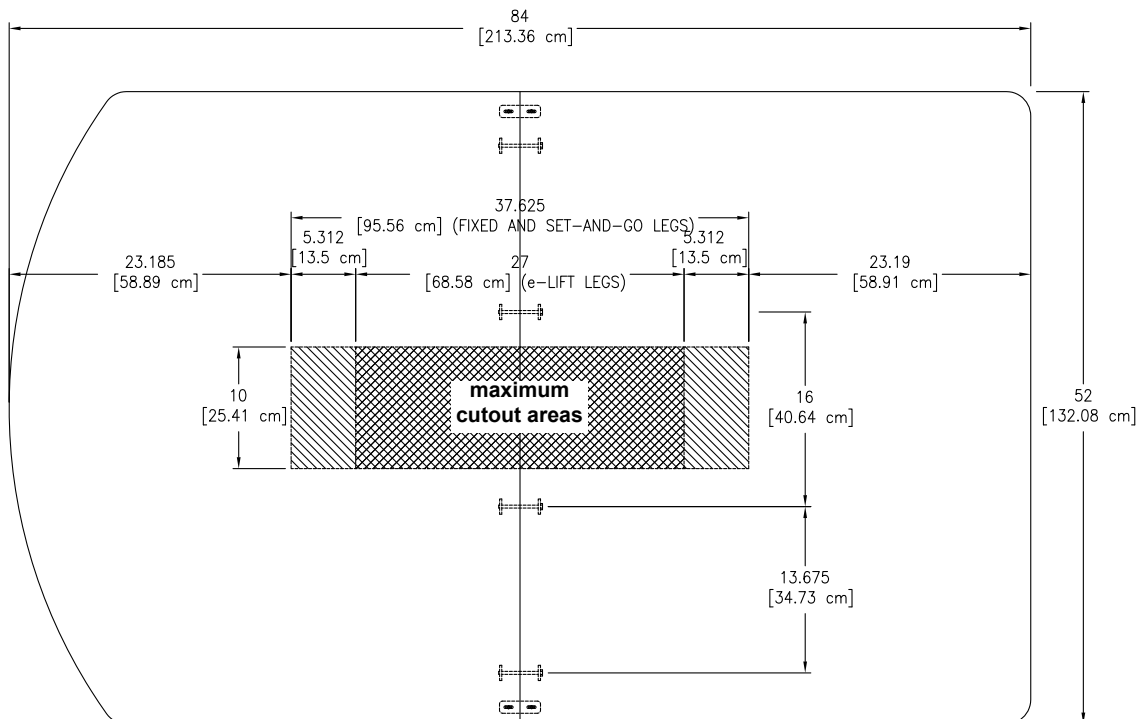

Figure 5A
2. The maximum cutout area on the assembled worksurface is shown in **Figure 5A**.